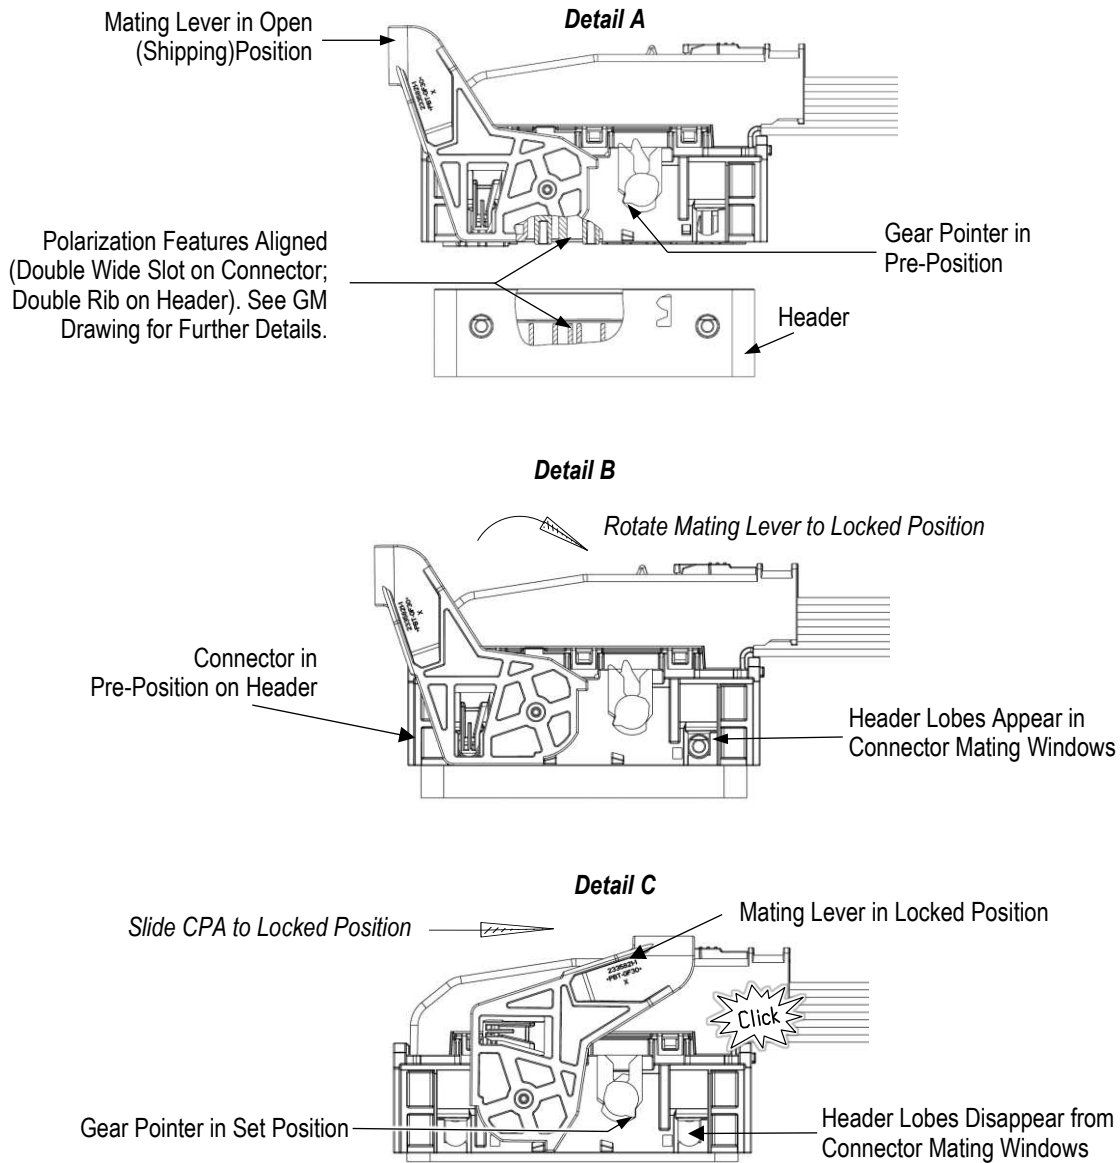

Figure 5
2. Figure 5, Detail A. The gear pointer should be in pre-position.
## 4. Figure 5, Detail B.
6. Figure 5, Detail C.
3. Figure 5, Detail A).